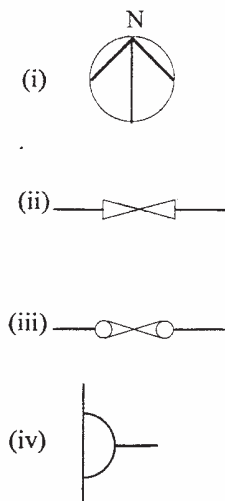

Figure 1
- (b) State the meaning of each of the symbols shown in figure 1.